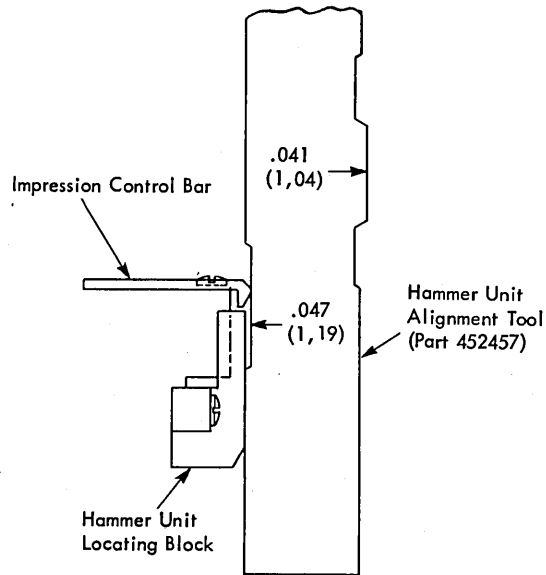
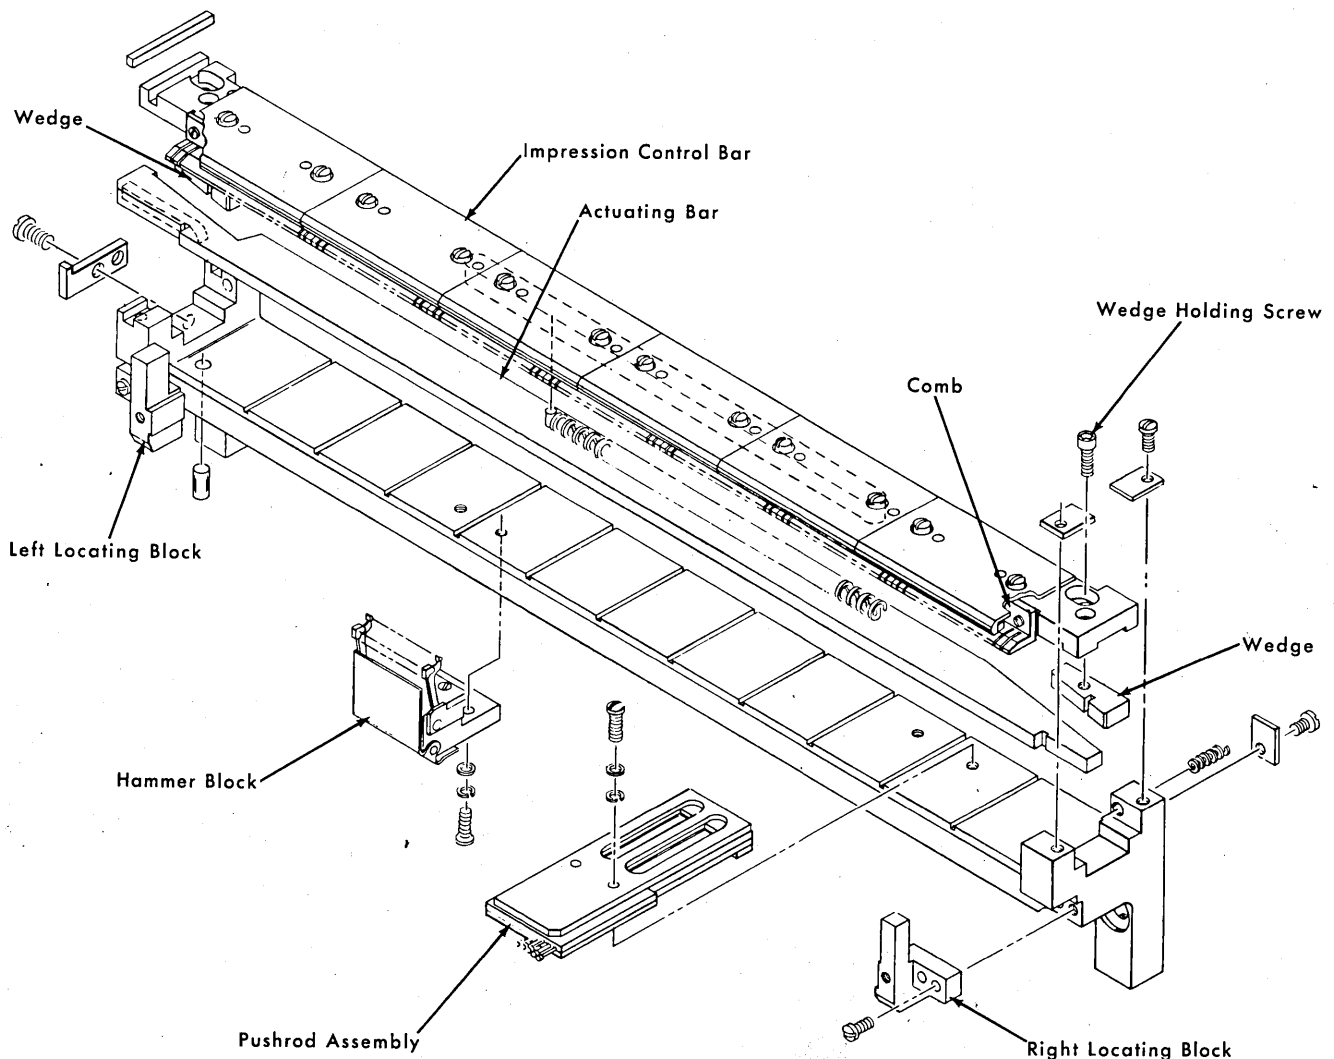

Figure 4-27. Impression Control Bar Positioning
Figure 4-28. Hammer Mounting Bar Assembly
4. Hammer unit impression control bar adjustment .047 in. (1, 19 mm). Set the print density knob on A and obtain the proper setting from the hammer unit locating blocks to the front edge of the impression control bar on both ends (see Figure 4-27).
2. Check, and adjust, if necessary, the .047 in. (1, 19 mm) location of the impression control bar. Use tool (part 452457) and measure between the front edge of the impression control bar and the front edge of the hammer-unit locating block (Figure 4-27). Adjust the position of the impression control wedges (Figure 4-28) to get the .047 in. (1, 19 mm) dimension. Check both ends. Loosen the wedge holding screw and insert a screwdriver into the wedge slot to move the wedge. Tighten the holding screw.
3. Remove the two screws (Figure 4-28) from the mounting block for the hammer to be removed.
3. Remove the two screws (see Figure 4-28) from the mounting block for the hammer to be removed.